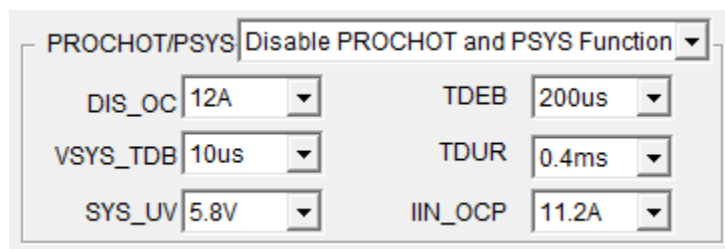

Figure 23: PROCHOT And PSYS Function
3. Set the PROCHOT and PSYS functions (see Figure 23).